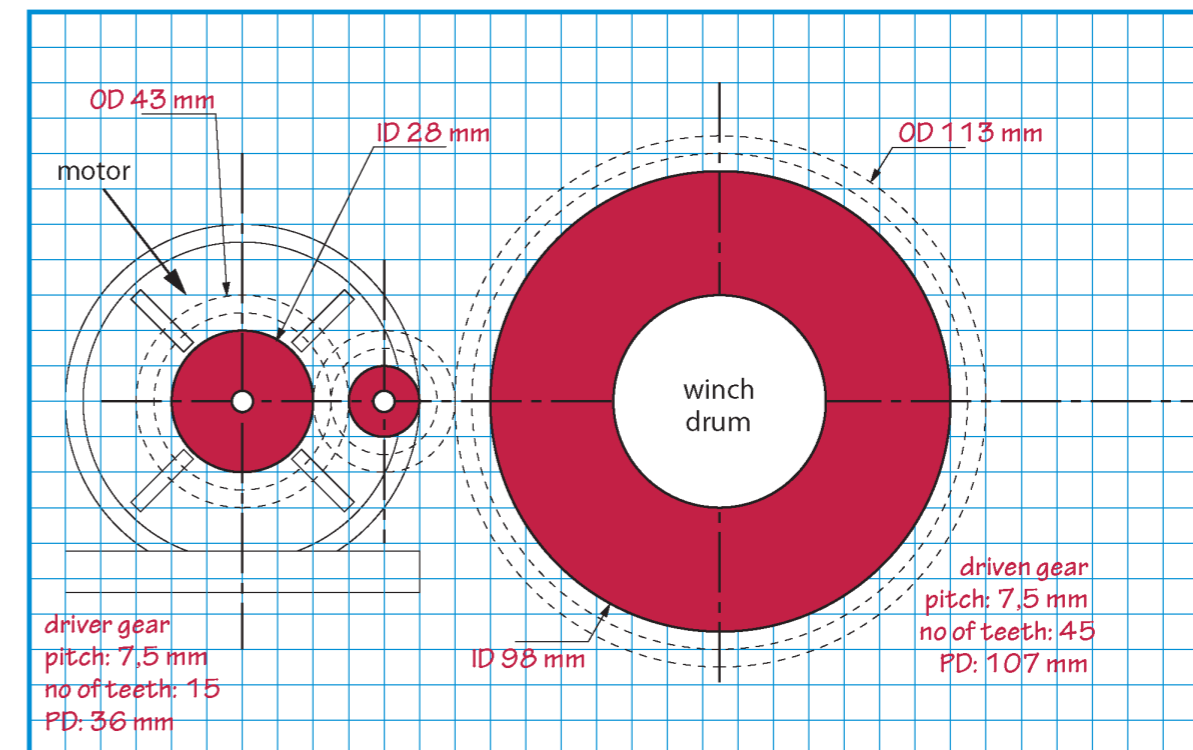

Figure 14: Copy and complete this drawing to show how you will improve the winch.
5. Copy and complete the drawing in Figure 14 to show how you will improve the winch. Draw the driver gear on top of the motor. Then show where you will place the winder, and draw the winder gear. Use a pitch of 7,5 mm and a depth of 7,5 mm for the gear teeth. Label your drawing with the pitch and number of teeth on each of the gear wheels.